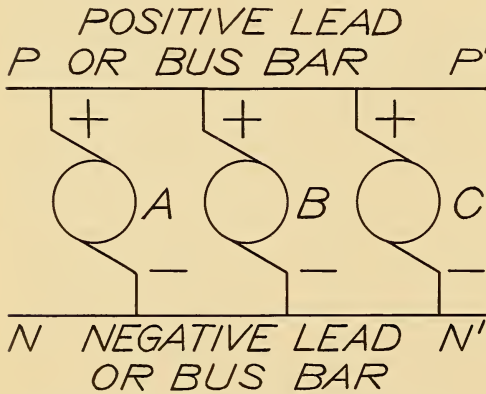

FIG. 16. DYNAMOS CONNECTED IN MULTIPLE OR PARALLEL.
The connection of three separate dynamos in multiple to leads or conductors (P P') and (N N') is represented in Fig. 16. Here, as will be seen, all the positive poles or brushes of the three dynamos (A), (B) and (D), are separately connected to the positive lead (P P'), and all the negative brushes are similarly connected to the negative lead (N N'). In this case, supposing the dynamos of the same size, each of the leads will have three times as great a current poured into it as it would if connected to a single machine only. The leads required for this purpose must be large and heavy in order to carry the large current. Such leads are generally known as bus bars, a contraction for omnibus, the Latin word for "all," because they receive all the current of the dynamos that are connected to them.